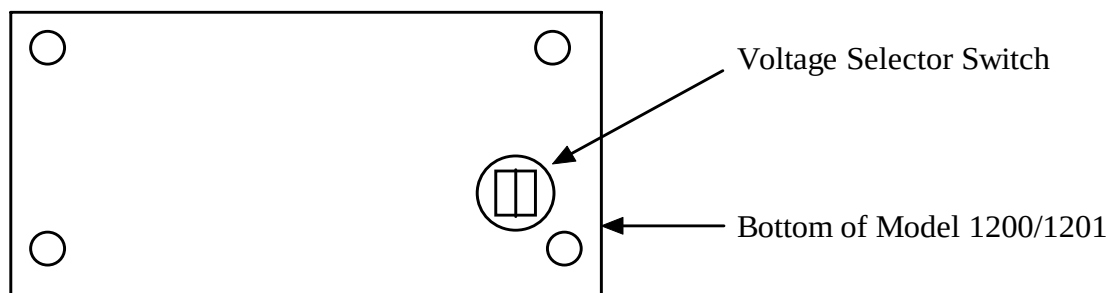

Figure-2 Bottom of **Cole Parmer 1200/1201**
3. Select either **230V** or **125V** on the Voltage Selector Switch on the bottom of the **1200/1201** shown in Figure-2, to match your local main voltage supply.